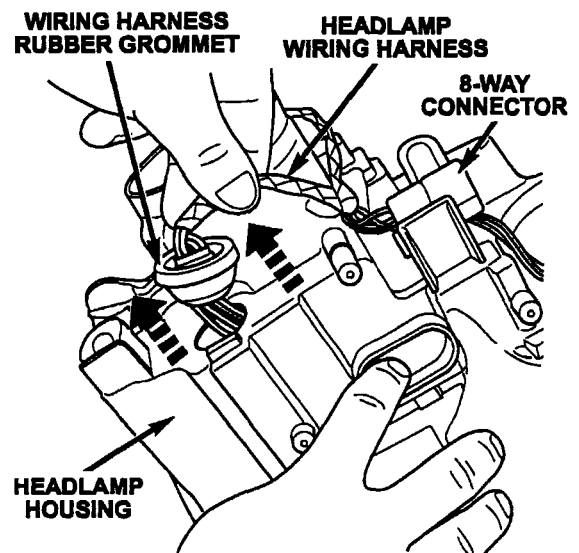

Figure 5
9. Remove the rubber grommet from the headlamp housing (Figure 5).